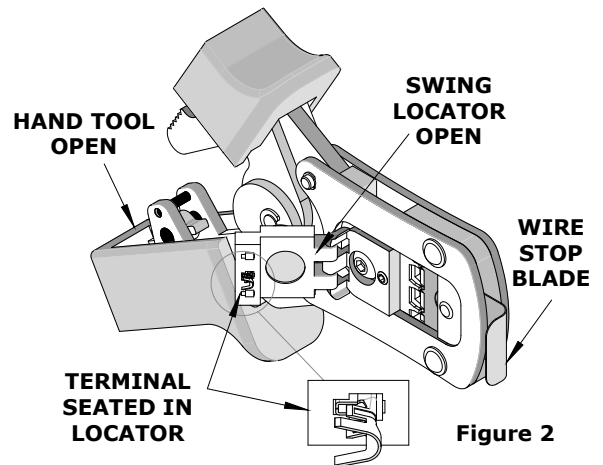

Figure 2
1. With the hand tool in the open position, pivot the terminal locator open by pulling up on the locator knob, and lift the wire stop blade. See Figure 2.